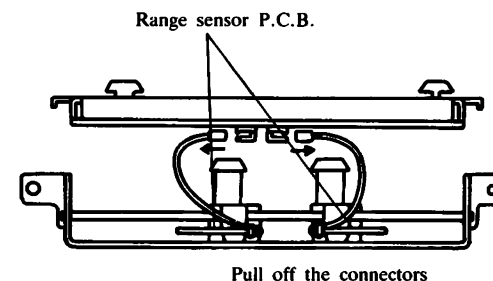

Fig. 12
- (3) Pull up the Control panel to remove it.
- (4) Disconnect the Right and Left range sensor connector from the Control switch P.C.B.. (Refer to Fig. 12)